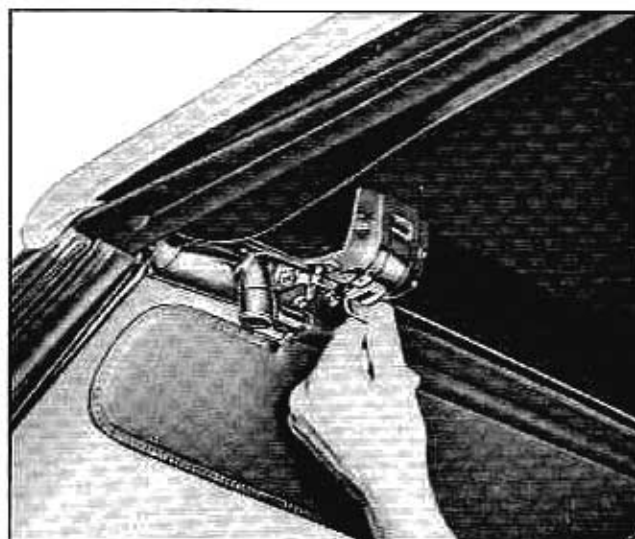

Fig. 7-3 Unlocking Top From Header
2. Turn down both sun visors; then rotate each locking handle rearward then upward until it is disengaged from striker on windshield header (Fig. 7-3).